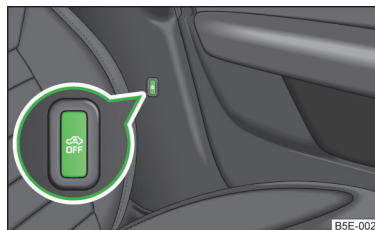

Fig. 18
- Press the symbol button  » Fig. 18 on the B-pillar on the driver's side. The lighting of the symbol  in the button changes from red to orange.